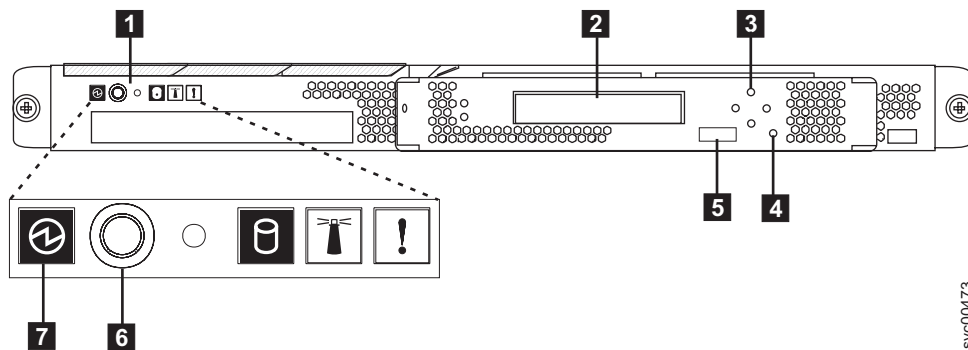

Figure 32. SAN Volume Controller 2145-8A4 front panel
**Note:** You do not need to install any software. The node boots automatically. Figure 32 illustrates the controls and indicators on the front panel that are used to verify the installation.